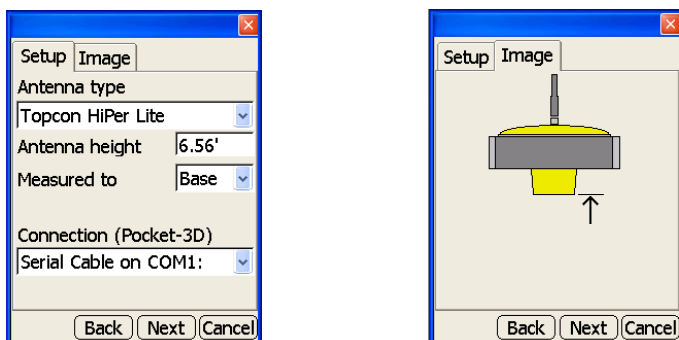

Figure 2-44. Antenna Information Dialog Box
4. Enter the following information using the same units of measure entered in the previous step, then press **Next** to continue (Figure 2-44 on page 2-30). These settings have a corresponding *Image* tab to illustrate the setup.